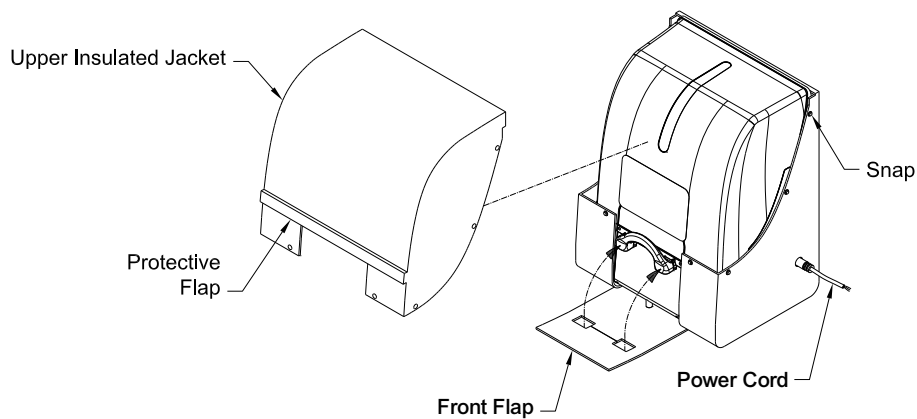

Figure 7
Step 6. Upper Insulated Jacket (Ref Figure 7)
Step 7. Power Connection (Ref Figure 7)